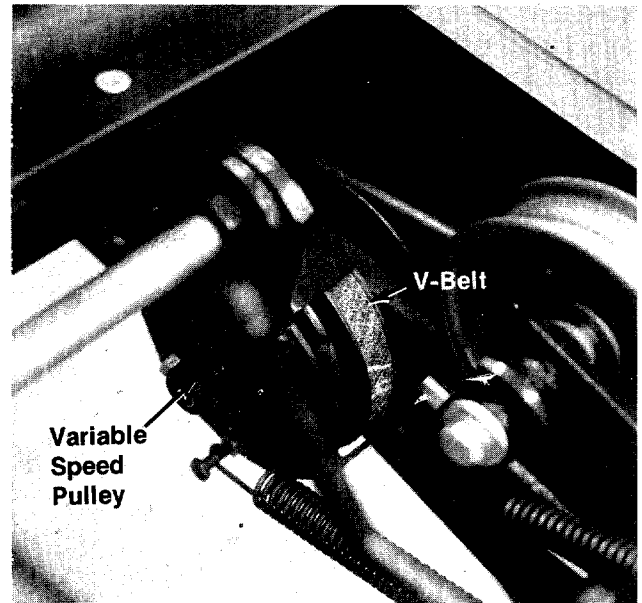

FIGURE 17.
3. Check to see if the V-belt from the engine to the variable speed pull is within 1/16" of being flush to the edge of the variable speed pulley. If the V-belt is too low in the variable speed pulley, work it by hand until it is as shown in figure 17.
The photograph in figure 17 was taken from the top for clarity. The variable speed pulley can be reached from under the tractor.